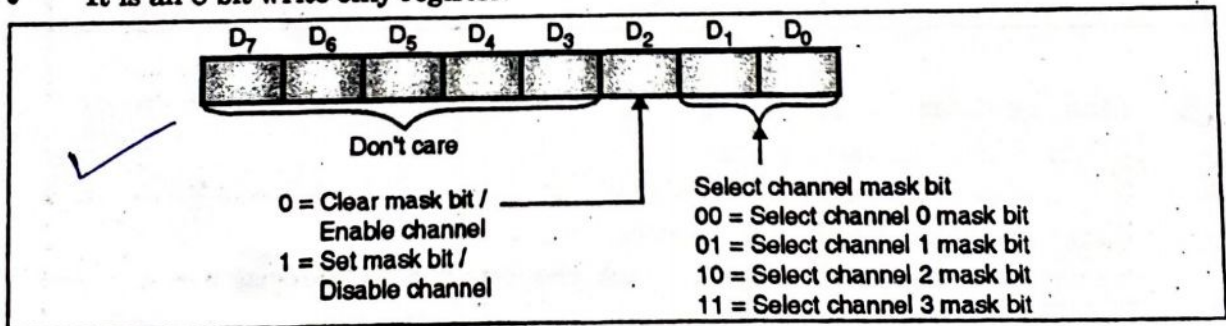

Fig. 17.5.7 : Byte written mask register
- The channel mask bit is selected by  $D_1$  and  $D_0$  bits of the mask format as shown in Fig. 17.5.7. Each bit of the 4 bit mask register can be set or reset separately under software control.